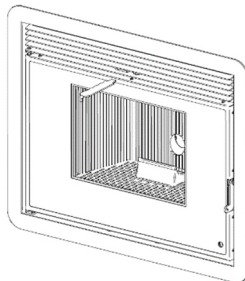

Figure 23 - Installation of the pellet insert
- The amount of air flowing to the front of the equipment and that flows through the tubes to channel the hot air can be adjusted using the accessory to open the door and the safety latches. Put the back part of the accessory between the grate in its central part as shown in Figure 23, you can check that there is a piece that fits perfectly and is able to rotate and move a deflector that causes the air to be directed towards the Front or to the air pipes. For safety, there is always a minimum amount of air that has to come out in front of the equipment. After adjusting the position, you must remove the accessory to keep it cool.